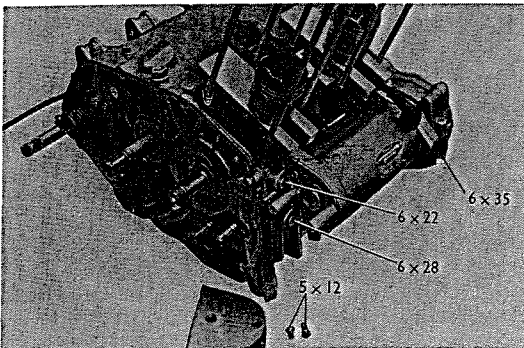

Fig. 3.83 Disassembling starting motor side cover
4. Remove two 5 x 12 pan screws securing the starting motor side cover. (Refer to Fig. 3.83)